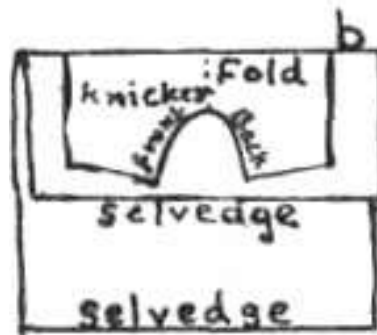

Fig.12.1b
- (g) If pattern pieces to be kept on fold are narrow, fold the material just wide enough to accommodate them (i.e. use off-centre lengthwise fold as in Fig.12.1b). This will leave all the excess material together on one side
b) **Off centre lengthwise fold (Fig.12.1b):** This is used when narrow pieces have to be cut on fold. To ensure that the fold is parallel to the selvedge, mark points measuring the